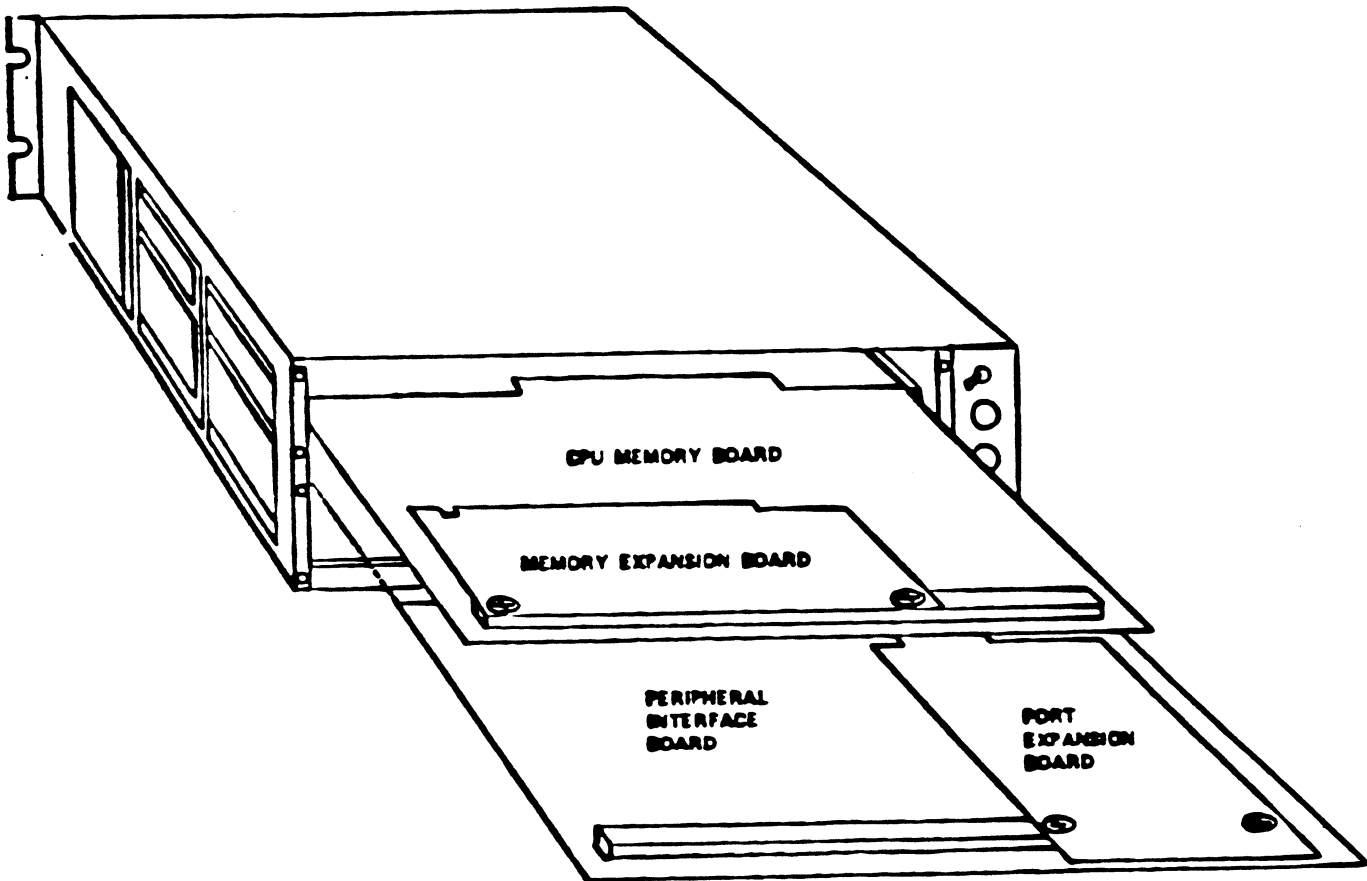

Figure 2. 64KB Memory Expansion Board Installation
7. Plug in Memory Expansion Board, connecting to 50-pin connector, and secure with 2 screws (see Figure 2).